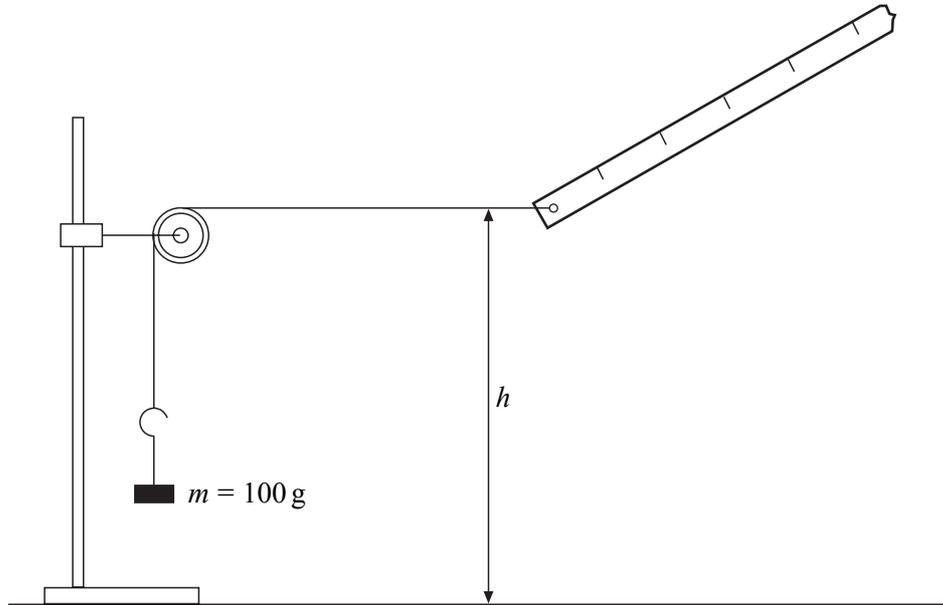

Figure 5
- (b) Attach one end of the string to the suspended ruler through the hole at the lower end. Pass the string over the pulley and fasten the hook to the free end of the string. Hang a mass, m , ($=100\text{g}$) from the hook. Adjust the height of the pulley, and, if necessary, the position of its stand until the string between the ruler and the pulley is horizontal, with the ruler, string and pulley in the same vertical plane. Measure and record the vertical height, h , defined in **Figure 5**, between the top of the string and the bench.